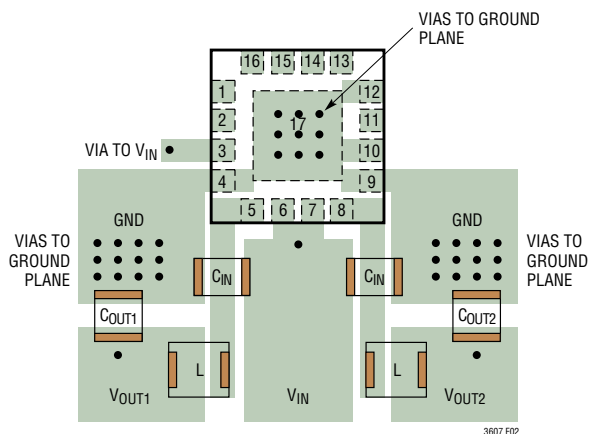

Figure 2. Example of Power Component Layout for QFN Package
When laying out the printed circuit board, the following checklist should be used to ensure proper operation of the LTC3607. These items are also illustrated graphically in the layout diagram of Figure 2. Check the following in your layout:
6. Flood all unused areas on all layers with copper. Flooding with copper will reduce the temperature rise of power components. These copper areas should be connected to V_{IN} or GND. Refer to Figures 2 and 3 for board layout examples.